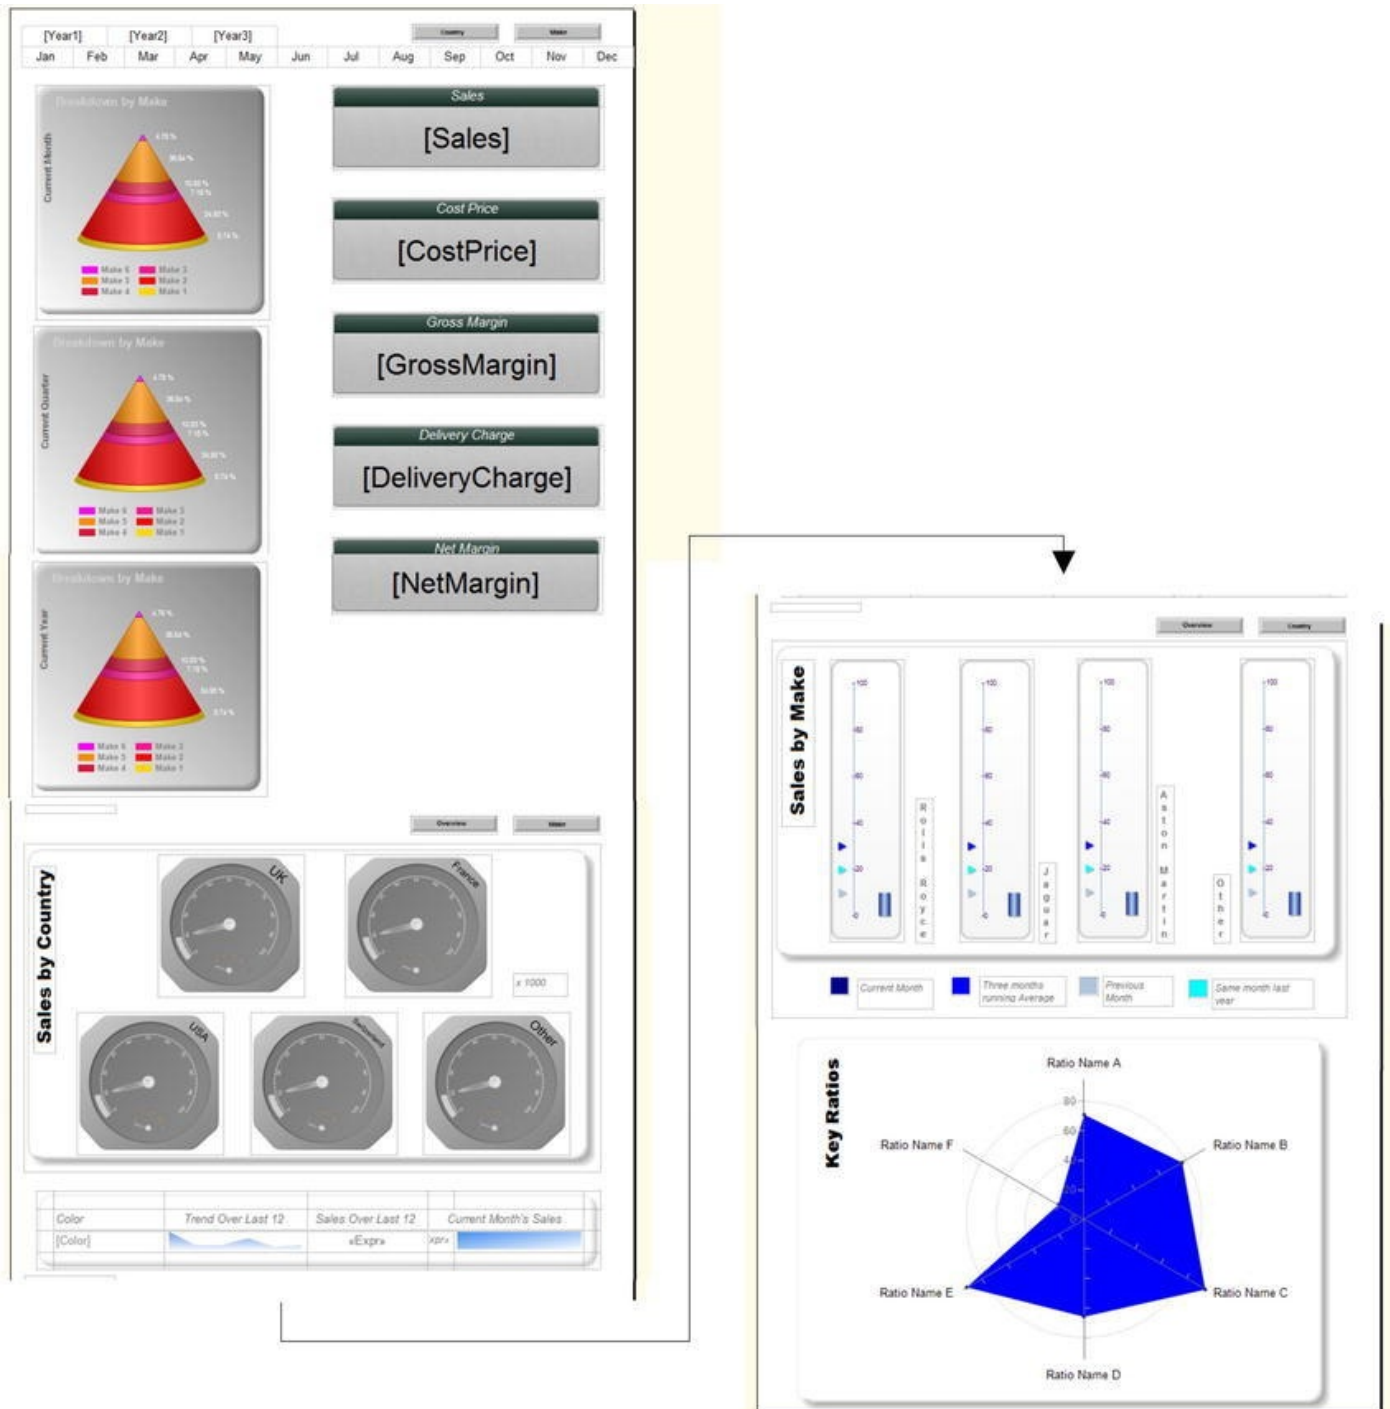

Figure 10-3. Design view of a tablet report designed for multi-page display
This is still a single SSRS report, but it uses page breaks to separate the elements into three parts. Then you add buttons that jump to bookmarks inside the report to make flipping from page to page easier. To make the point, Figure 10-3 shows the design view
6. Cut and paste the three pyramid charts from the table that currently contains them. This way you will have three independent charts. Place them vertically on the top left of the report under the date selector. Make them slightly smaller, and align and space them until they look something like the leftmost part of the first page in Figure 10-3.
7. Make four copies of the table containing the figures that were originally at the top of the dashboard. Delete all the columns but one, leaving a different metric each time, until you have five separate tables, each containing *one* of the sales metrics from the table. Place them vertically on the top right of the report under the date selector. Align and space them until they look something like the rightmost part of the first page in Figure 10-3.
8. Leaving about an inch of clear space, place the gauges for the sales by country and the table of color sales under each other and under the elements that you rearranged in steps 6 and 7. They should look like the center page in Figure 10-3.
- contains them, and then delete the container rectangle. Again, leaving about an inch of clear space, place the two elements under each other and under the elements that you rearranged in step 8. They should look like the third page in Figure 10-3.
14. For the third set of images, set the left-hand one to use the image `SmallGrayButton_Overview` and the right-hand one to use the image `SmallGrayButton_Country`. Refer back to Figure 10-3 (the design view) if you need to see exactly how to set these items in the report.